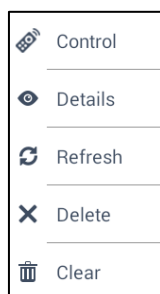

Figure 4.12 Editing the Added DVR/NVR
1. Click the added DVR/NVR in the **Device Management** interface. A pop-up box is shown in Figure 4.12.